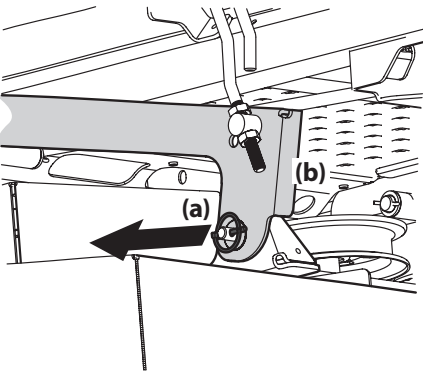

Figure 4-16
6. Locate the LH and RH deck release pins (a) on each side of the deck. Pull the deck release pins (a) outward and release the deck from the LH and RH deck lift arms (b). See Figure 4-16.
5. Pull the deck release pins outward and maneuver the deck as necessary to align the holes in the deck lift arms with the pins. Refer to Figure 4-16.